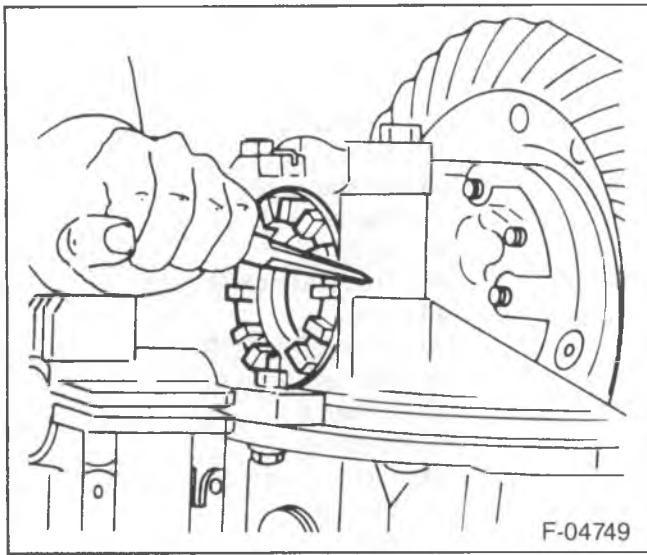
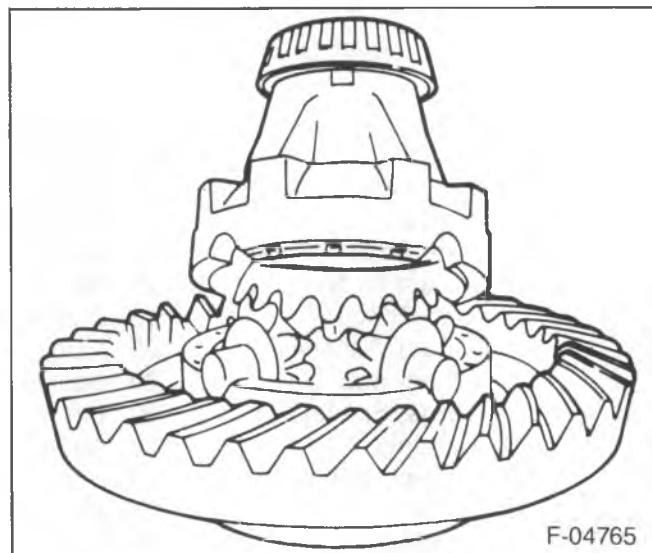
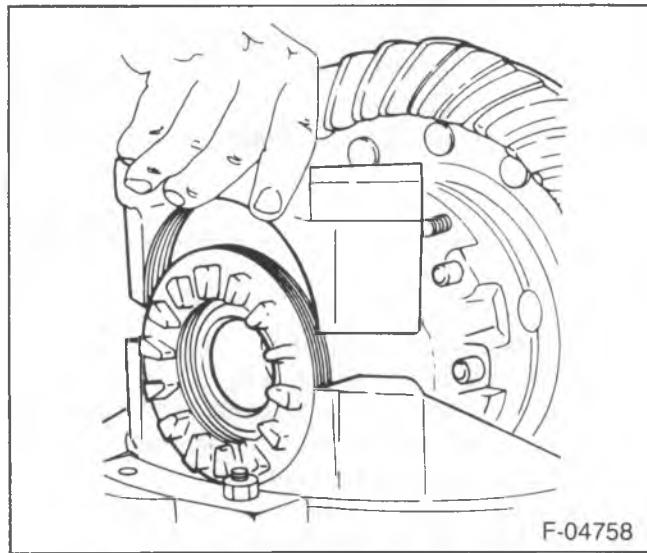
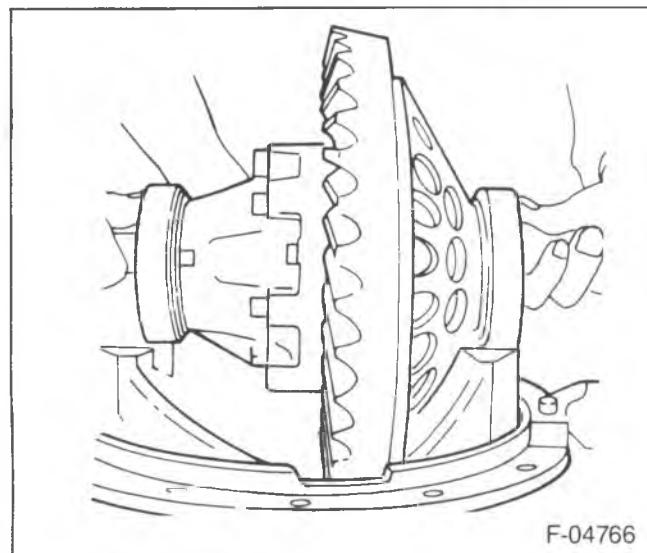

Figure 5—Punching the Carrier Leg
Figure 8—Differential Case Halves
Figure 6—Removing the Bearing Cap
Figure 7—Removing the Differential
- Center punch one differential carrier leg and bearing cap to identify the cap for reassembly (figure 5).
- 4. Bearing cap bolts (23).
- 5. Bearing caps (25) (figure 6).
- 6. Adjusting nuts (32).
- 7. Differential and gear assembly (36) from the carrier (figure 7).
- 8. Differential case bolts (44).
- 9. The top case half (36) (figure 8).